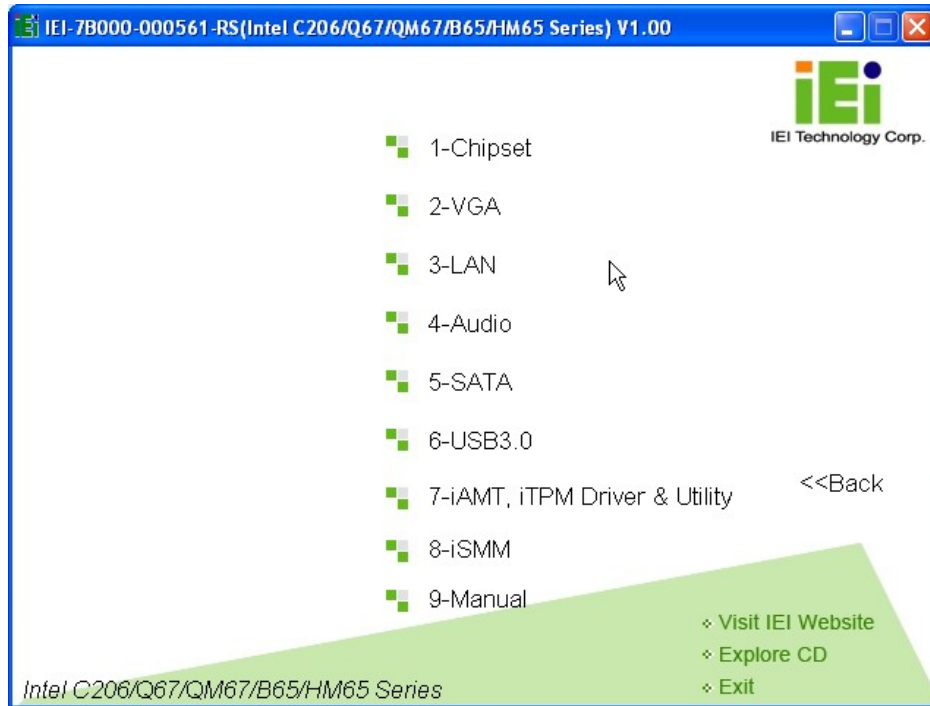

Figure 4-21: Available Drivers
Step 4: A new screen with a list of available drivers appears (**Figure 4-21**).